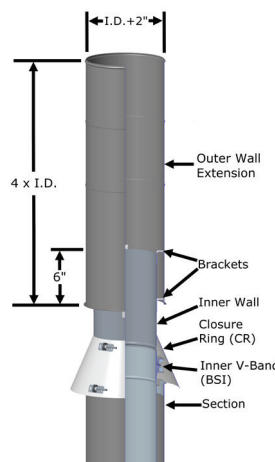

Figure 71a - No Loss Cap (NLC) installed or I.D. from 5" to 13"
The last 6" of the inner flue is surrounded by a larger outer wall (I.D +2") that has a height of 4 times the flue diameter and is open at the bottom. The Closure Ring (CR) must be seal to the inner wall with outer Sealant **S-375**. Rain water that falls into the larger wall washes down the side of the larger chimney and discharges at the bottom. See **Figure 71a**.
For I.D. from 5" to 13", the No Loss Cap is an integral component that attaches to the chimney flue using a standard inner V-Band (BSI) (See **JOINT ASSEMBLY Section**). For Models DAS1, DIS1, DIS2 and DIS4, a Closure Ring (CR) is provided to protects the insulated space between standard pipe inner and outer. See **Figure 71a**